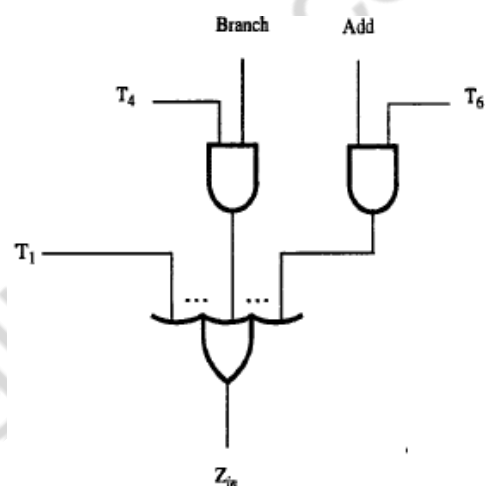

Figure 7.12 Generation of the  $Z_{in}$  control signal
- For example (Figure 7.12),  $Zin = T1 + T6.ADD + T4.BR$